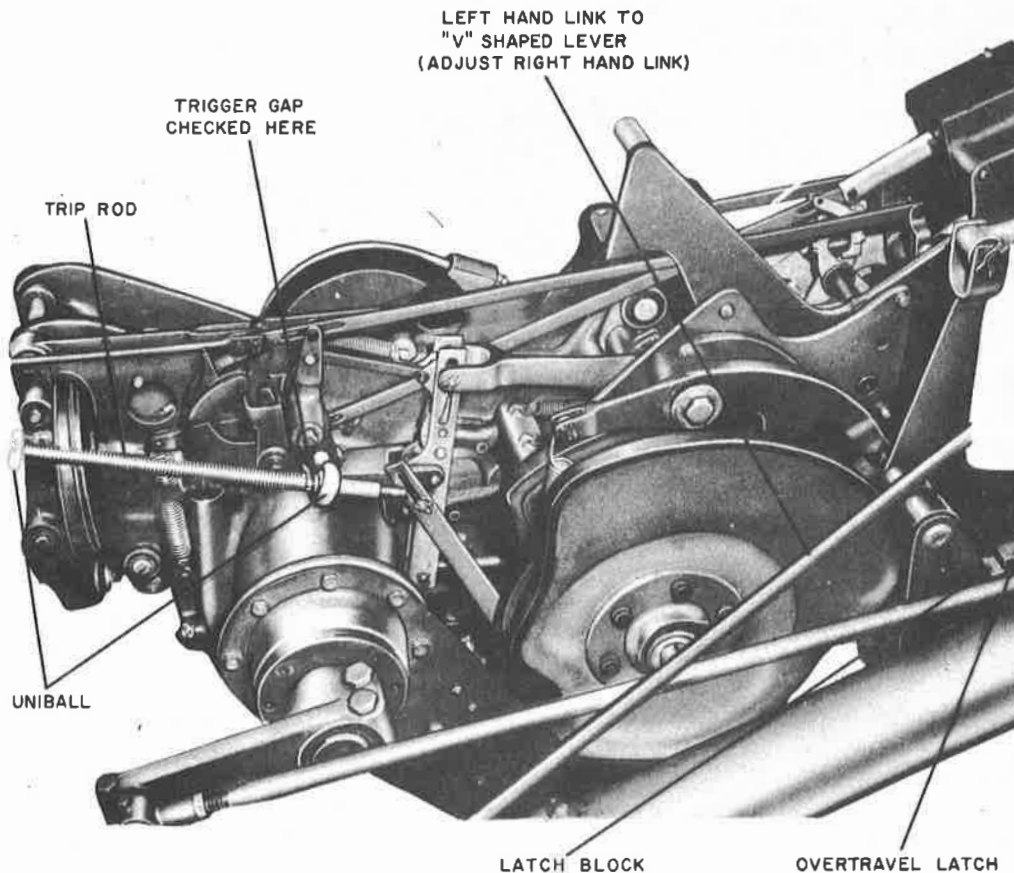

Figure 77. Trigger Link Adjustment
22. GEARBOX TRIGGER LINK ADJUSTMENT. (FIGURE 77)